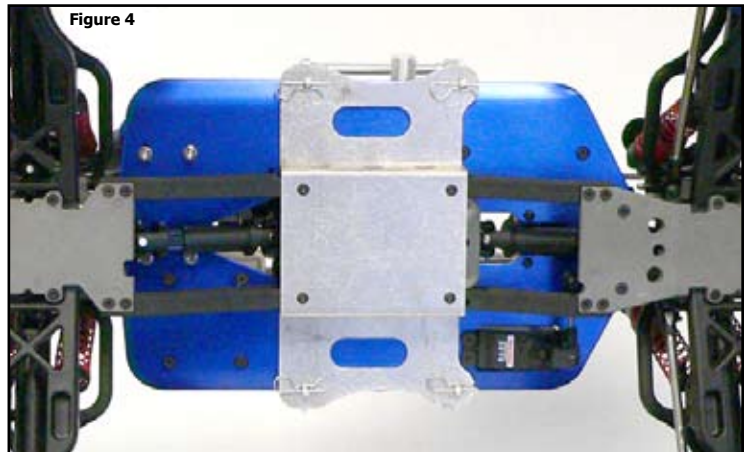

Figure 4
7. Attach the *Belly Pan* with *M3x8 BHCS* and *Body Clips* as shown in *Figure 4*. Replace the wheels and tires.